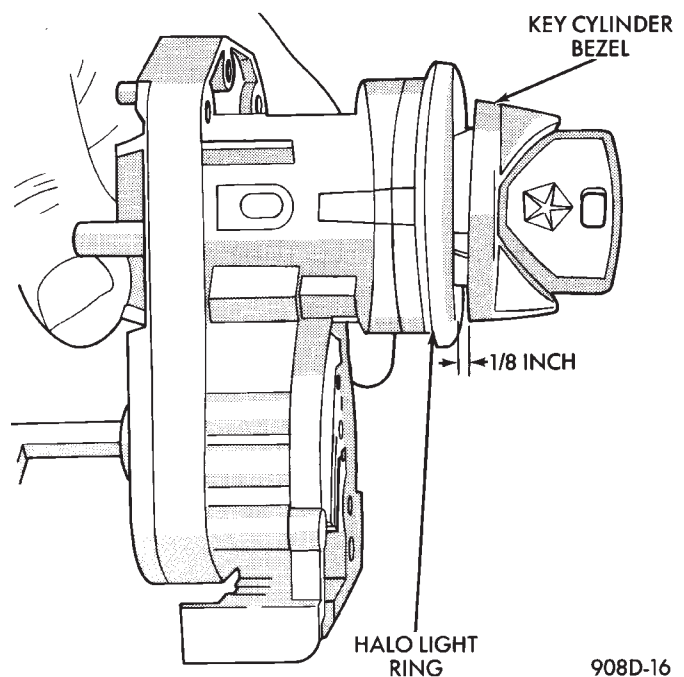

Fig. 7 Unseated Key Cylinder
- (b) Rotate key clockwise to the OFF position. Key cylinder will unseat from ignition switch (Fig. 7). When key cylinder is unseated, it will be ap-